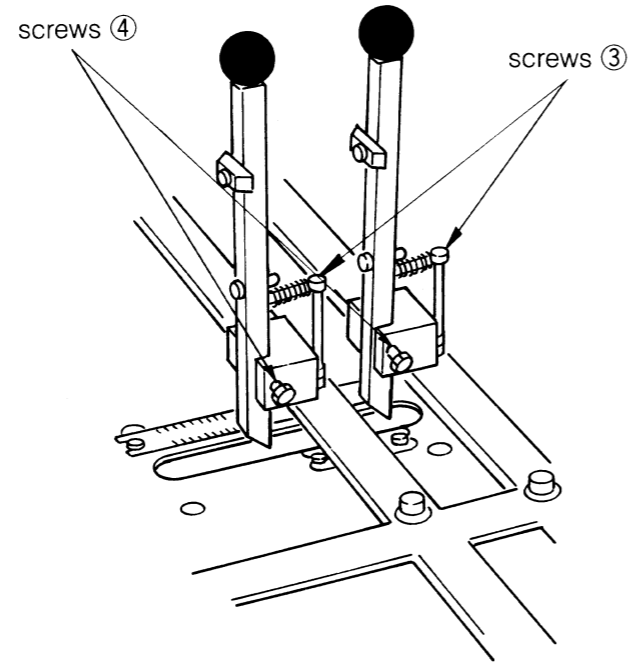

fig 2
- 5 Insert the new set lever to the groove of the mounting jig, insert screw ④ into the screw hole from the side, and tighten it with a nut. (cf.fig 2)
- 6 Attach screw ③ to the set lever. (cf.fig 2)